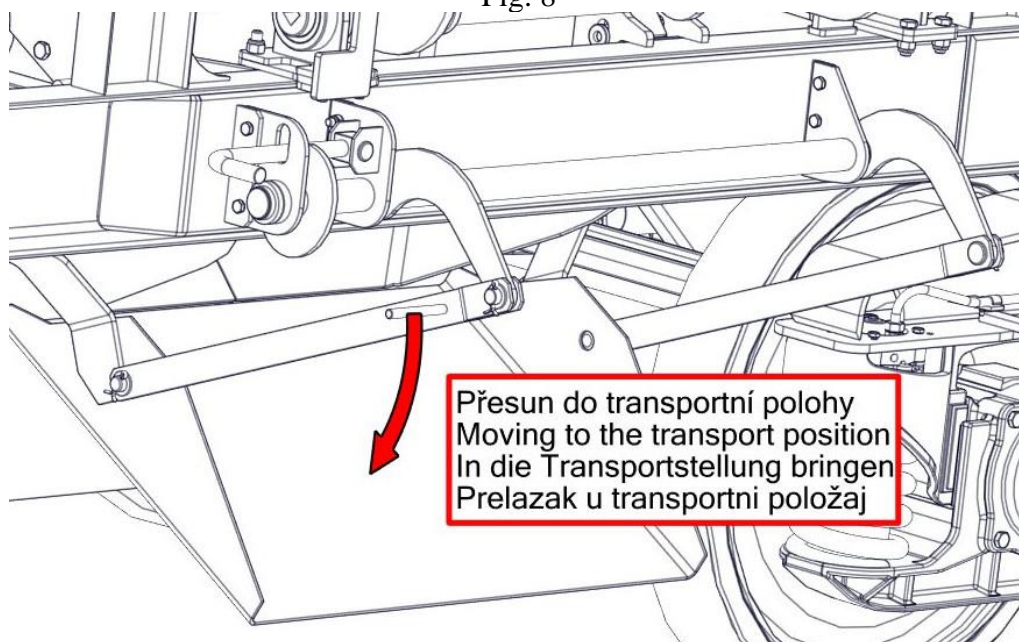

Fig. 9
- Retract the unloading chute using the handle in the position where the lever can be locked again – Fig. 9 and Fig 10